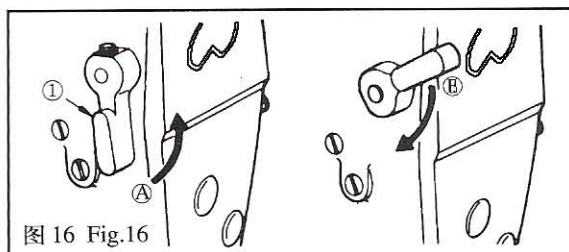

图 16 Fig.16
- 1) Loosen setscrew ② , and take out tension asm ⑤ .
- 2) Loosen setscrew ④ , and remove tension post ③ .
- 3) As you turn tension post ③ clockwise (in direction A), the pressure will be increased.
10. 压脚扳手(图 16)
10. HAND LIFTER (Fig.16)